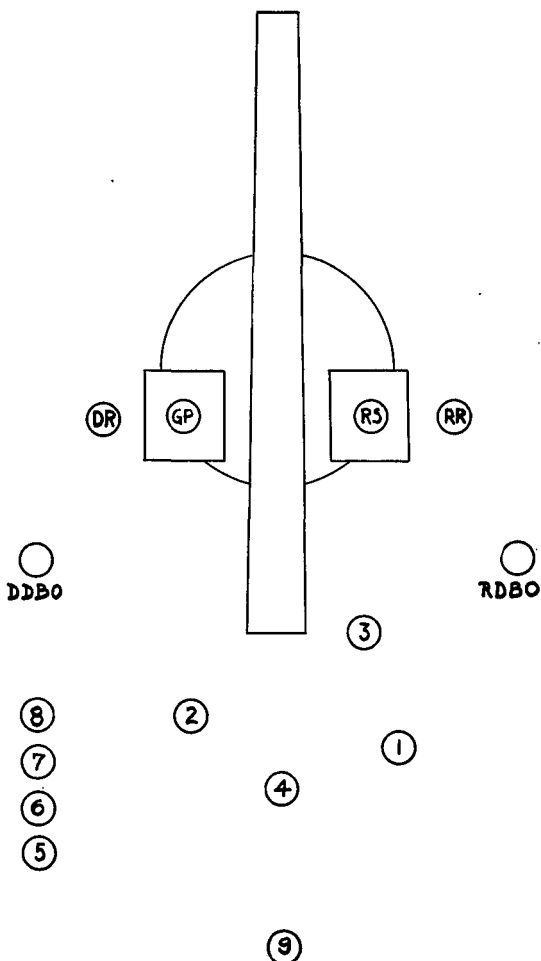

FIGURE 2.—Details, posts.
*b.* He commands: 1. DETAILS, 2. POSTS, when the section arrives in rear of the emplacement, and supervises the procuring of equipment. After all details have reached their posts (fig. 2), he commands: EXAMINE GUN. He then makes an inspection of the gun, carriage, and other matériel, paying special attention to the recoil cylinder, firing mechanism, safety devices, and the oiling of the various bearings. He receives the reports of the chief of ammunition and of the various details of the gun squad, and reports to the officer in charge of the emplacement, "Sir, No. \_\_\_\_\_ in order," or reports defects which he is unable to remedy without delay.